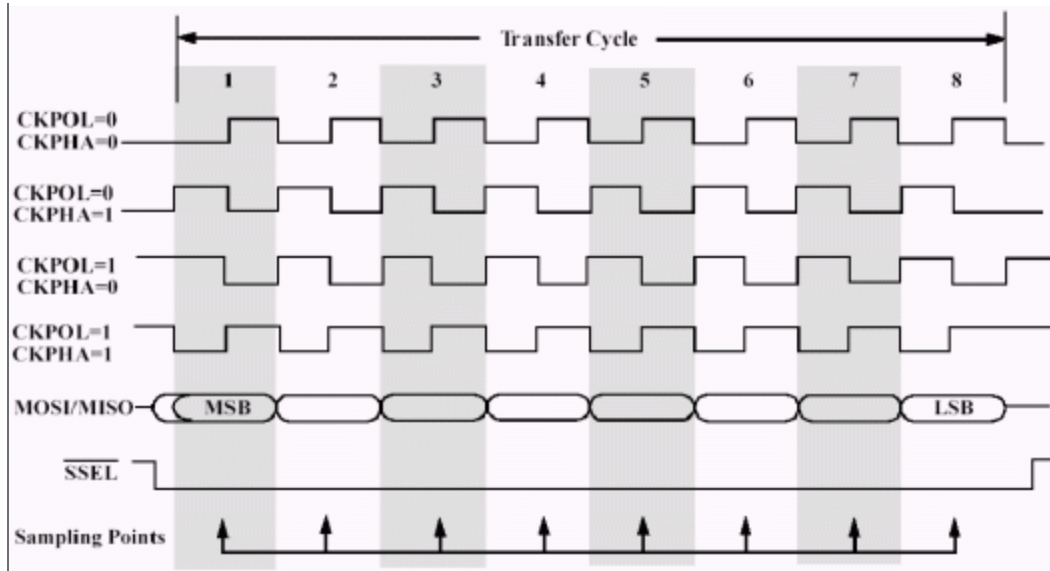

Figure 2. SPI timing diagram.
The four SPI clock (SPI_CLK) modes supported by this library are defined by CKPHA and CKPOL. The CKPOL bit defines the idle state of the SPI clock, CKPOL = 0 forces SPI_CLK to idle low, while CKPOL = 1 forces SPI_CLK to idle high. CKPHA changes the edge used to signal transfer of data. When CKPHA = 0, the first edge of SPI_CLK specifies when the slave and master should sample their input. With CKPHA = 1, the second edge of SPI_CLK specifies when to sample. When CKPHA = 1, the master and slave should present their data on their output during the first SPI_CLK edge. This allows the data sufficient hold time. When CKPHA = 0, data should become valid when the Slave Select (SS) line goes active. Note that most devices require the SS line to be used when CKPHA = 0 to allow proper timing, while SS may be optional when CKPHA = 1. **Figure 2** illustrates this behavior.